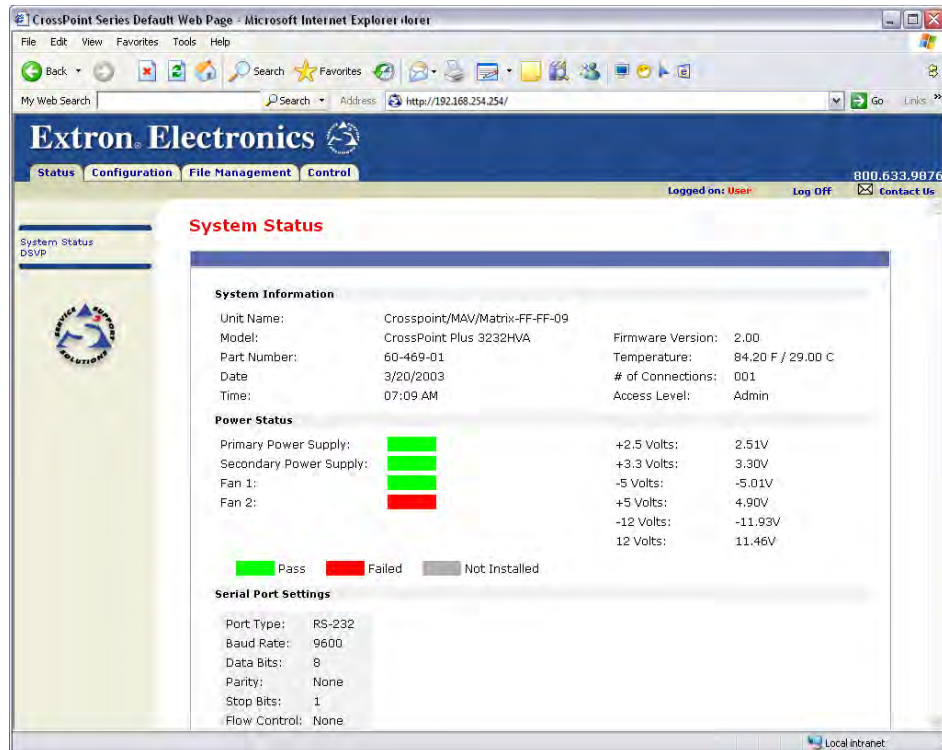

Figure 82. System Status Page
- **If neither of the above conditions is true**, the switcher downloads the factory-installed default startup page, `"nortxe_index.html"` (see figure 82 on the next page), also known as the System Status page.
The System Status page (see figure 82) provides an overall view of the status of the matrix switcher, including individual voltages, fan operation, and the serial port status. The System Status page is the default page that the switcher downloads when you connect to the switcher. Access the System Status page from other pages by clicking the **Status** tab.